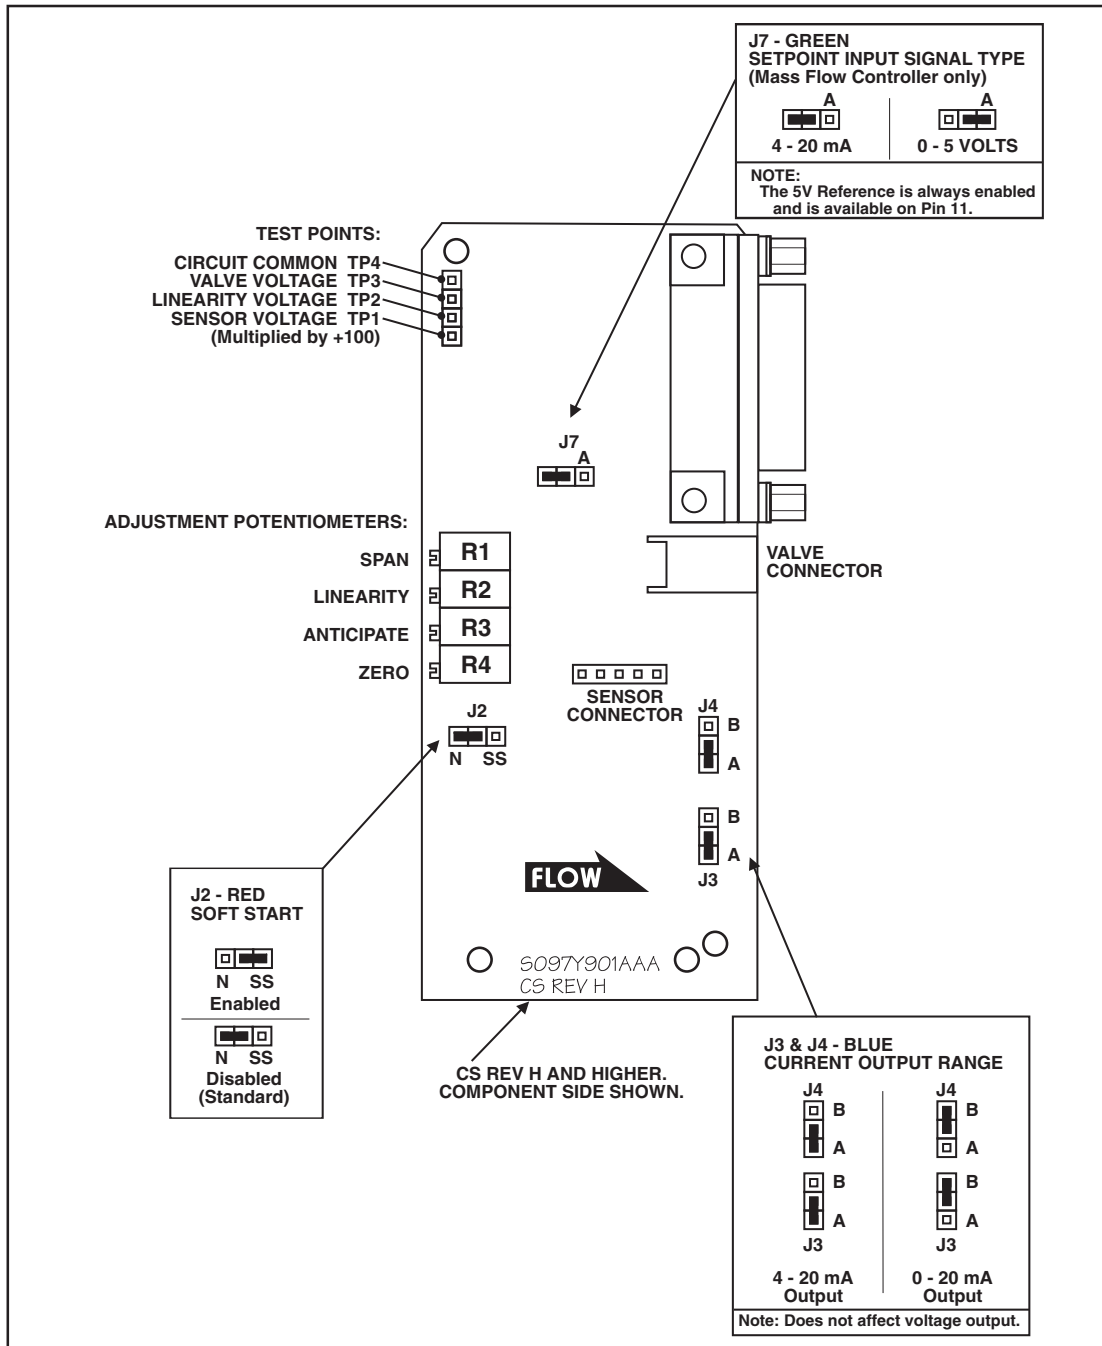

Figure 3-5 D-Connector PC Board Jumper Location and Function (Current I/O Version)
4. Verify that all user selectable jumpers are in their desired positions. Refer to Figures 3-5 through 3-9.